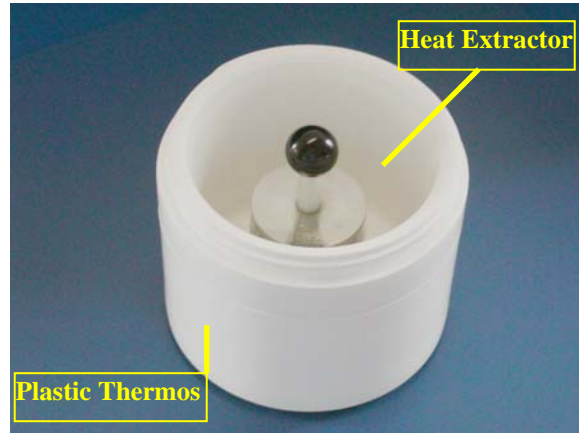

Fig. 2: SAGJ Plastic Thermos and Heat Extractor
5. Heat Extractor (Figs. 2,4)
6. Plastic Thermos (Fig. 2)